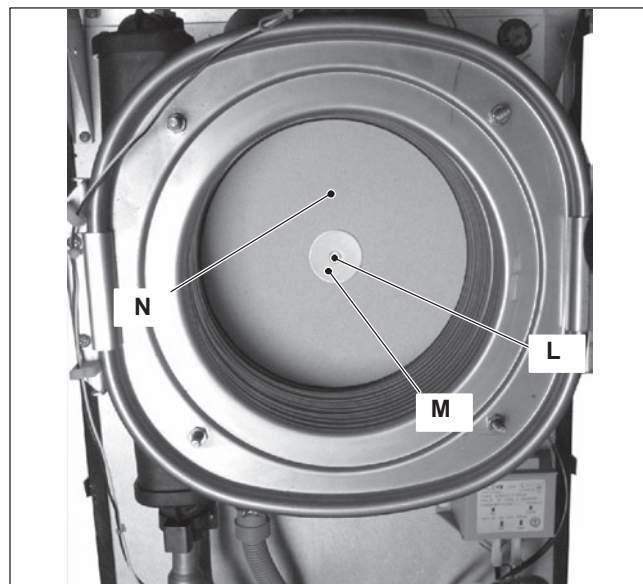

Figure 18.7
- 2 Unscrew the screw L, remove the washer M and the rear insulation N (Figure 18.7).